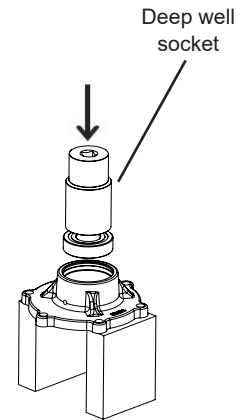

Figure 6
2. Put bearing in position in cover. Press until it stops using a socket or dowel that is a little smaller than 1-3/8" (6 roller) and 2" (8 roller) see Figure 6.